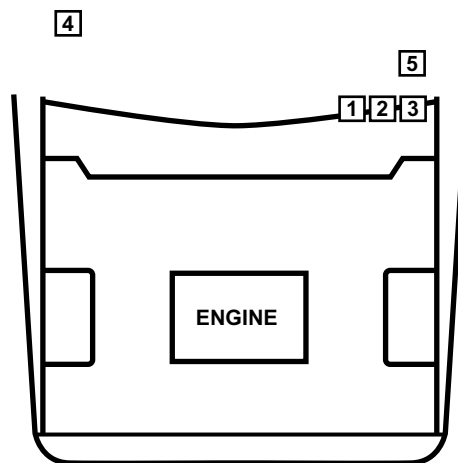

Figure 15-6 SVX common connector locations
- “SVX common connector locations” on page 169 (Table 15-6, Figure 15-6)